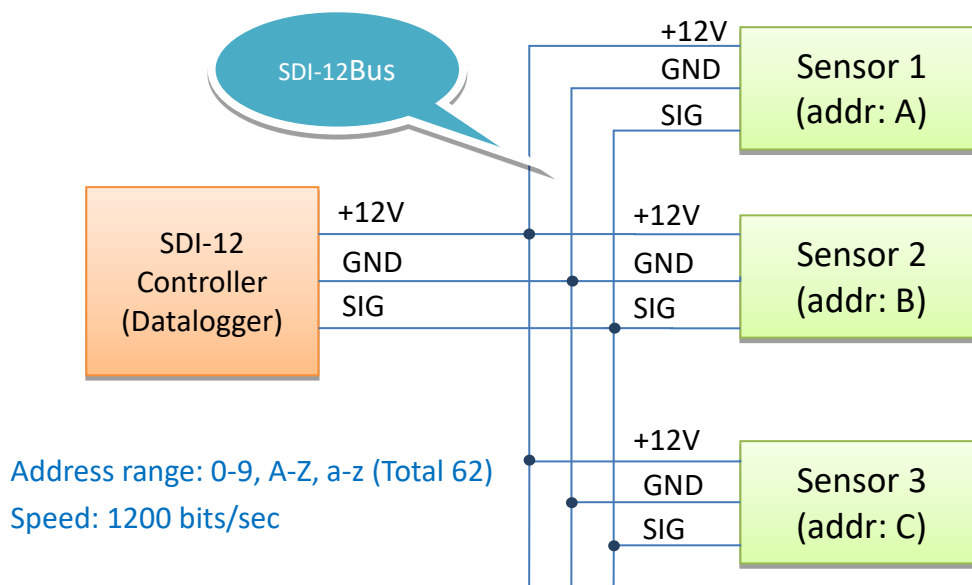
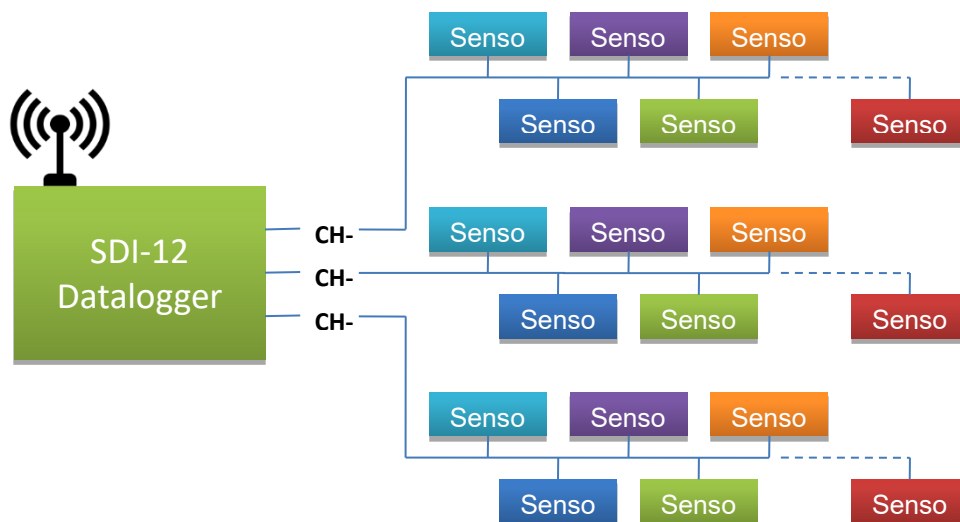

Figure 1-1: SDI-12 Bus connections for single channel
Figure 3-1: SDI-12 Sensors connected at different BUS
The SDI-12 electrical interface uses the SDI-12 Bus to transmit serial data between SDI-12 data recorders and sensors. *Figure 1-1* is showing SDI-12 interface connections. The SDI-12 Bus is the cable that connects multiple SDI-12 devices. This is a cable with three conductors:
Step 5: Now connect the sensors to the SDI-12 Bus as per your BUS map. Refer Figure 1-1 and Figure 3-1 to make connections.